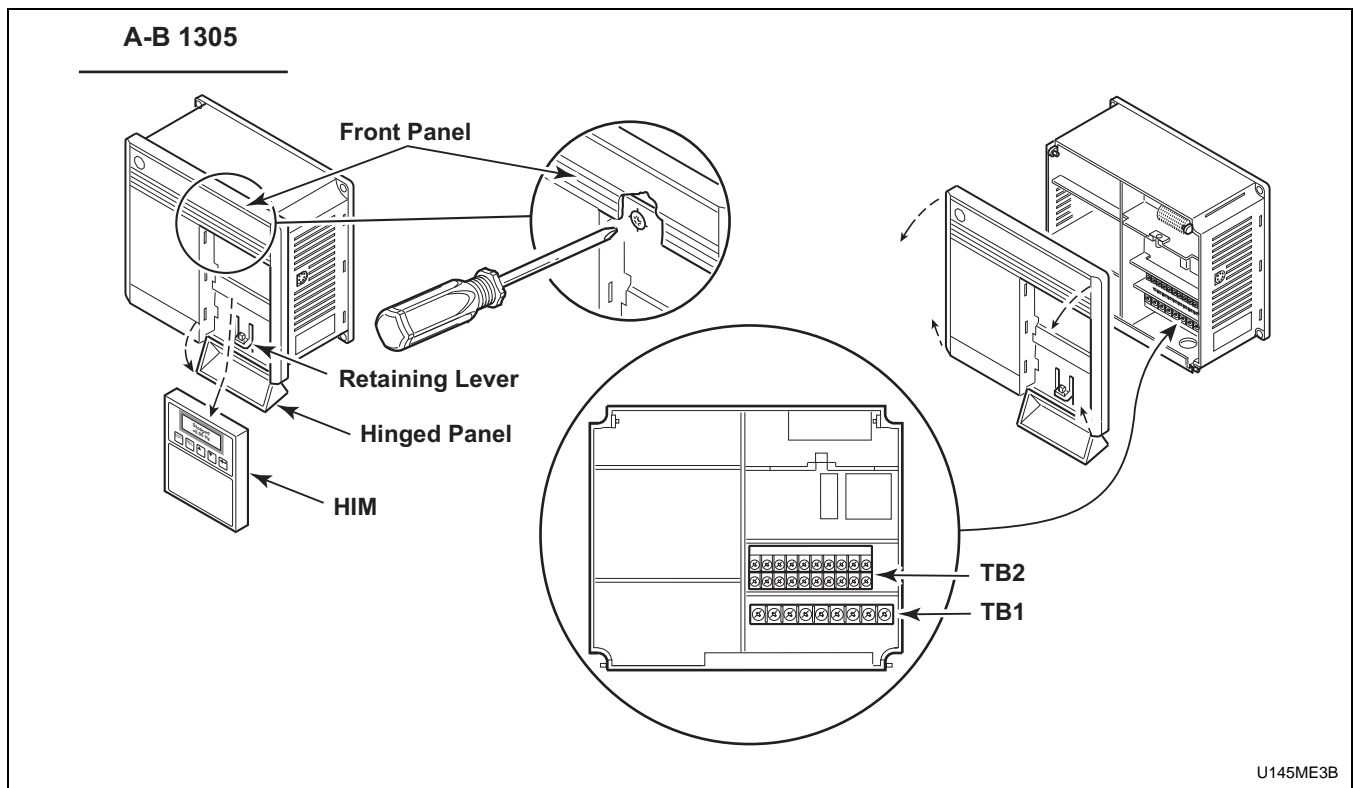

Figure 38
To access the power and control terminal blocks, refer to *Figure 38* and perform the following procedure:
5. Loosen front panel fastener by rotating counterclockwise 90 degrees. Refer to *Figure 38*.